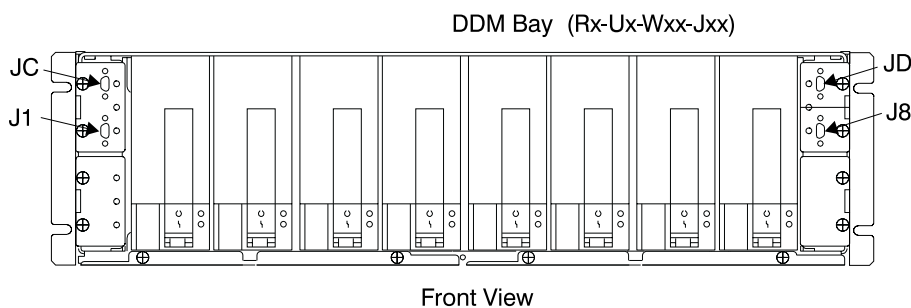
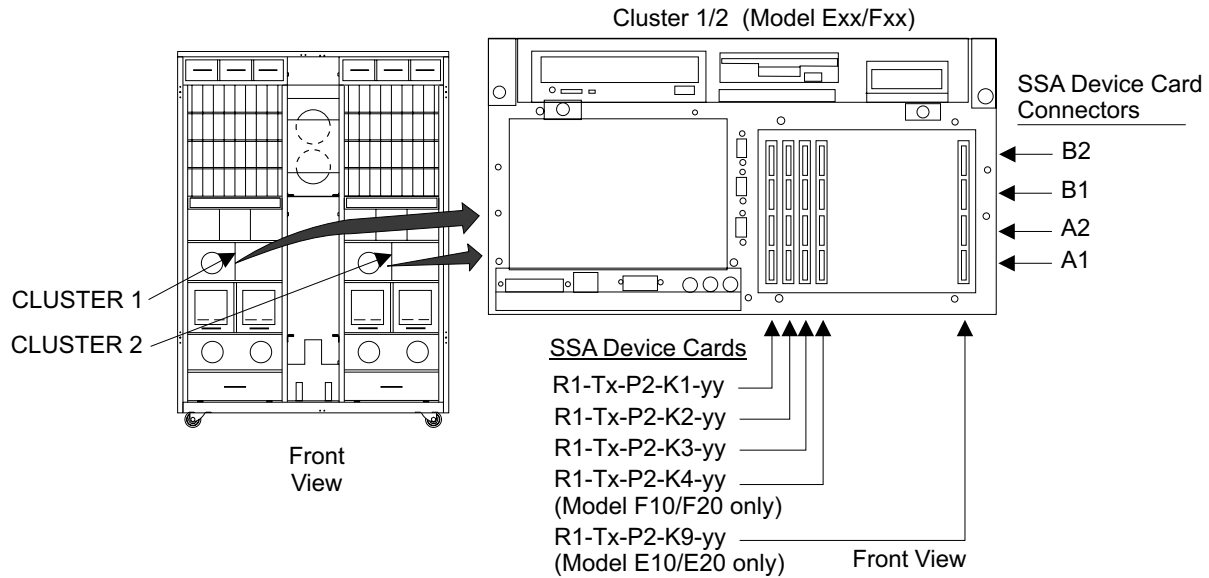

Figure 89. DDM bay SSA Connector Locations (S007693)
Figure 90. Cluster SSA Device Card SSA Connector Locations (S008022m)
21. Locate the SSA cable displayed on the service terminal as a possible FRU. For this isolation procedure, the SSA cable will be connected between a drawer and an SSA device card. The service terminal FRU Location will identify the drawer and its SSA connector, and the SSA device card and its SSA connector. To locate a drawer, see "Locating a DDM Bay or SSA DASD Model 020 or 040 Drawer in a 2105 Rack" in chapter 7 of the *Enterprise Storage Server Service Guide, Volume 3*. To locate SSA cable connectors on a drawer, see Figure 89.
To locate an SSA device card cable connector, see Figure 89 and Figure 90 on page 179.